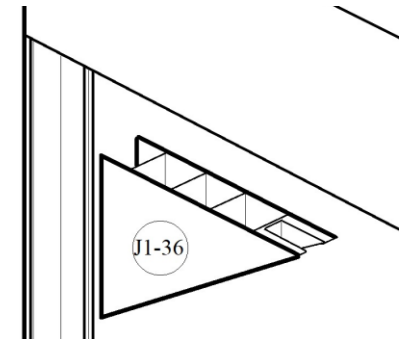

Figure 6
Firstly, insert the triangle J1-36 panel (the smallest panel) into the vertical angle corner of Top Rail (C) and Stile (A) by fitting each opening edge into the groove of each Top Rail (C) and Stile (A). Make sure that the groove of J1-36 panel is facing outward. See **Figure 6**.